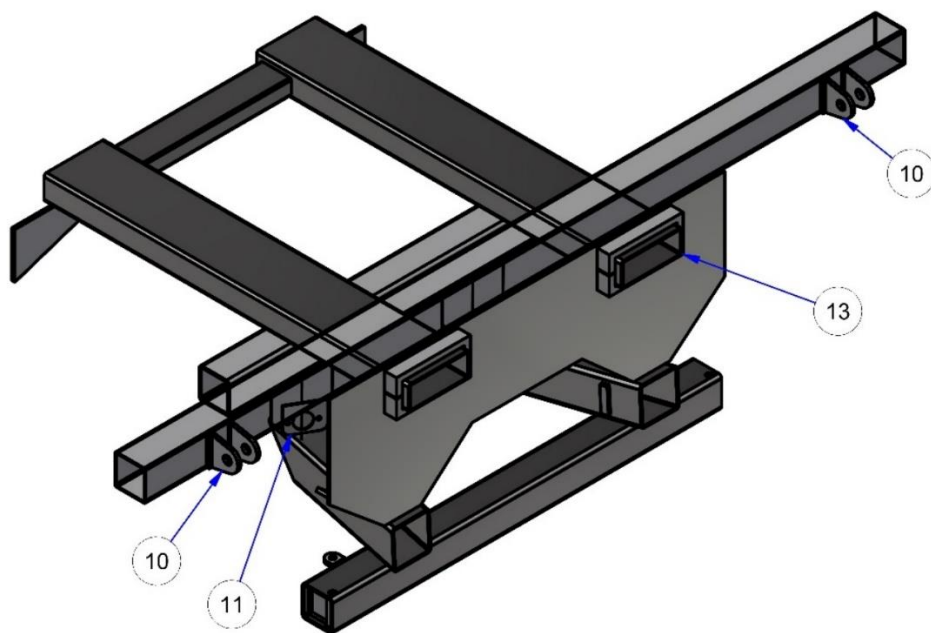

Figure 13 (Ancillaries)
1. Weld on ancillary components shown in Figure 13 to their designated positions